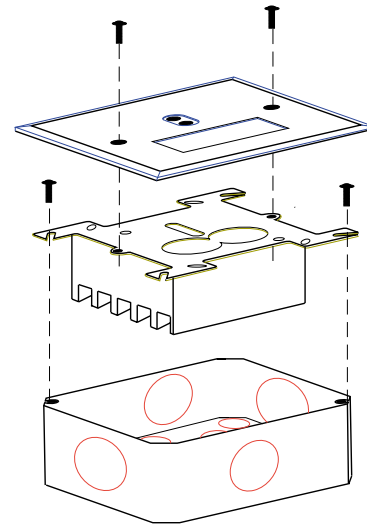

Figure 7 - Mounting the Module
The module mounts to a 4-inch square electrical box. See Figure 7. The box must have a minimum depth of 2 1/8 inches.
2. Secure the module to a 4-inch electrical box (not included). See Figure 7.